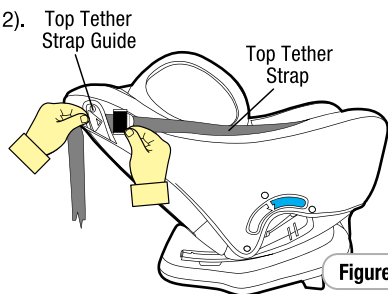

Figure 2
**Step 2:** Continue to extend until the adjuster has reached the desired location at the side of the restraint (refer Figure 2).